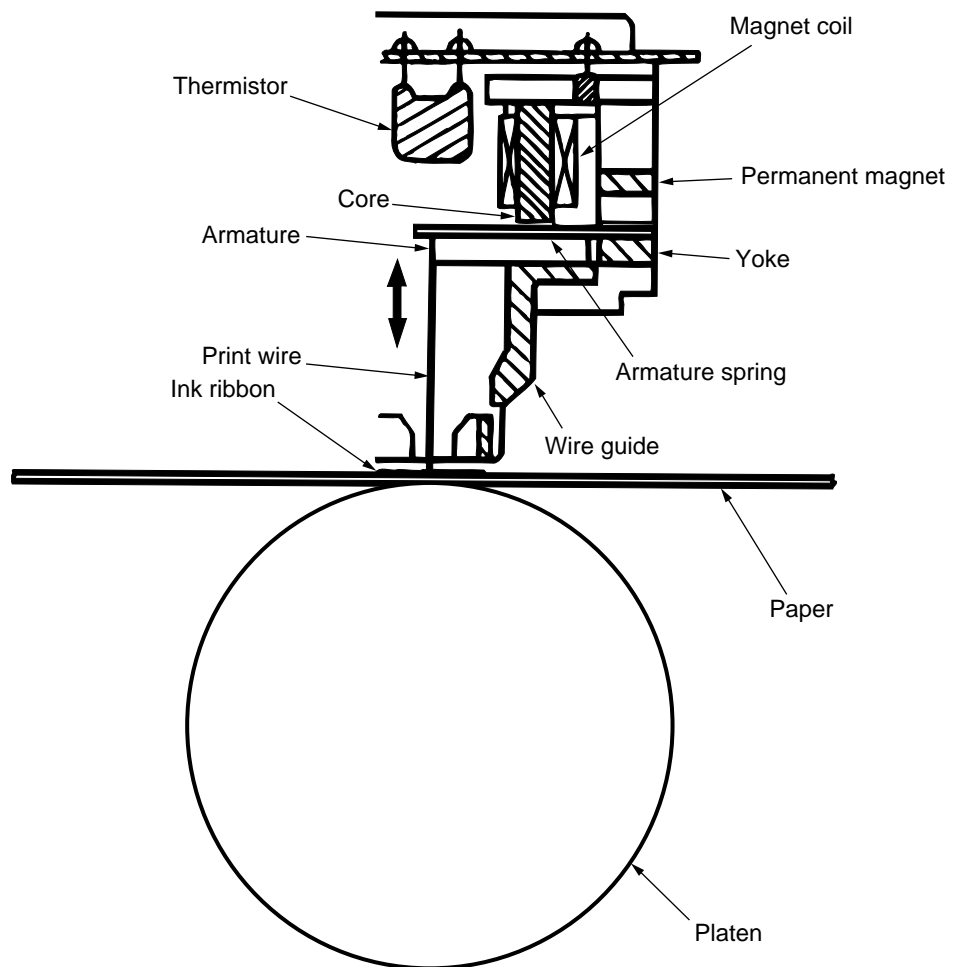

Figure 11-3
(1) Actions of the Print Head (See Figure 11-3.)